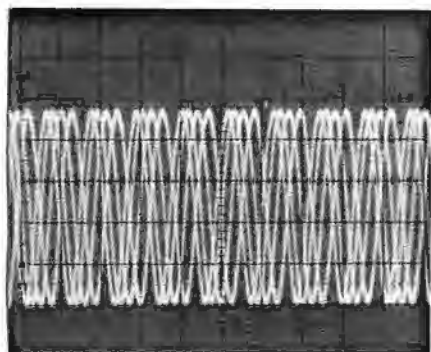

Fig. 4. Out-of-sync scope produces this meaningless pattern.
Note: See Fig. 4 for information on ordering pc boards.
Fig. 4. Etching and drilling guide (right) and component layout (above) for main pc board. Note: etched and drilled pc boards for this and Fig. 5 are available from Select Circuits, 1411 Lonsdale Rd, Columbus, OH 43227 for \$18.95 a pair.
**Construction.** Assembly of the tester is not critical. However, the use of pc boards will simplify the task. Etching and drilling guides for the main and programming boards are shown in Figs. 4, 5, and 6. The main pc board contains most tester components mounted in a conventional manner. It in turn is mounted on four 1/4-inch (6.4-mm) No. 4 standoffs behind the front panel of a molded plastic box. Holes are cut in the front panel for the test socket, the sixteen indicator
the vertical frequency. If this is not done, and if the starts of successive sweep ramps occur at different points on the input signal (positive peak, negative peak, start of positive alternation, etc.), the jumbled pattern shown in Fig. 4 results. In these "recurrent-sweep" scopes, the sweep signal voltage is generated by a sawtooth oscillator that is usually synchronized to the input signal by feeding it a sample of the input signal from the vertical circuits.